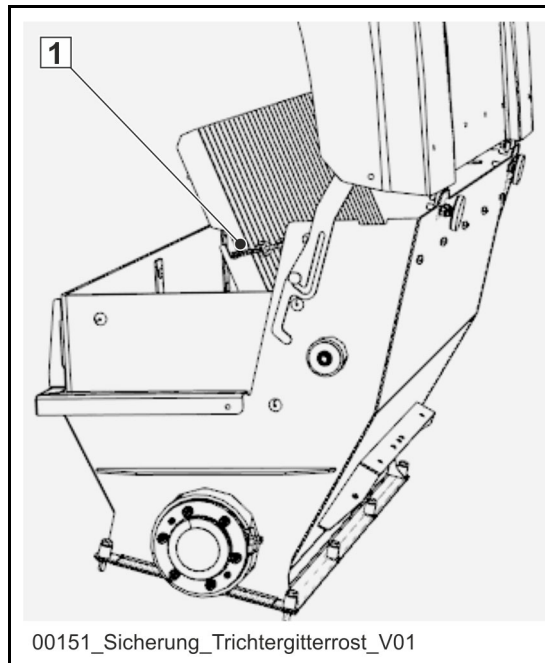

Fig. 247 Example: Securing the raised hopper grate
The hopper grate must only be opened in exceptional cases. Lock the raised hopper grate with the hooks (1) (**Fig. 247**).